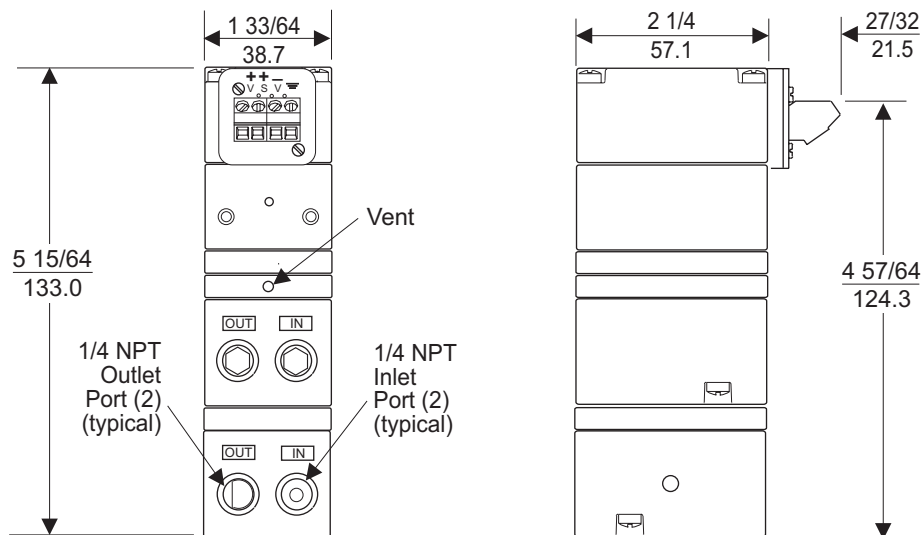

Figure 6. TR7800 Outline Dimensions.
**NOTE:** The TR7800 Transducer is designed for use with the TR Rack Kit. Physically, it is the same as the TT7800 (Terminal Block) Unit except that the terminal block has been rotated to the rear. For more information, see Figure 6. "TR7800 Outline Dimensions" on page 4.